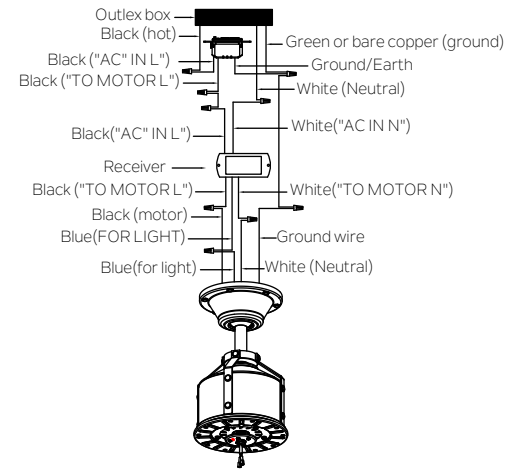

Fig. 13
Step 2. Motor to Receiver Electrical Connections: Connect the BLACK wire from the fan to BLACK wire marked "TO MOTOR L" from the receiver. Connect the WHITE wire from the fan to the WHITE wire marked "TO MOTOR N" from the receiver. Connect the BLUE wire from the fan to the BLUE wire marked "FOR LIGHT" from the receiver. Secure all the wire connections with the plastic wire nuts provided. (Fig. 13)
Step 3. Remote Receiver to Outlet Box Electrical Connections: Connect the BLACK (hot) wire from the ceiling to the BLACK wire marked "AC IN L" from the wall control. Connect the WHITE (Neutral) wire from the ceiling to the WHITE wire marked "AC IN N" from the receiver. Connect the BLACK (To Motor L) wire from the wall control to the BLACK wire marked "AC IN L" from the receiver. Secure the wire connections with the plastic wire connectors provided. (Fig. 13)
Step 4. If your outlet box has a ground wire (green or bare copper) connect it to the fan ground wires : otherwise connect the fan ground wire to the mounting bracket. Secure the wire connection with a plastic nut provided. After connecting the wires, spread them apart so that the green and white wires are on one side of the outlet box and black and blue wires are on the other side. (Fig. 13)